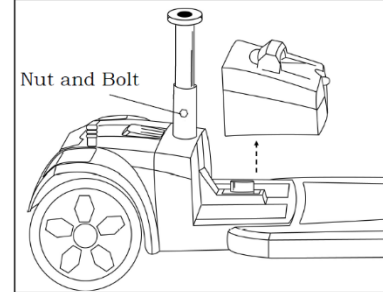

Figure 10
2. Remove the battery box by lifting it up. *See figure 10.*